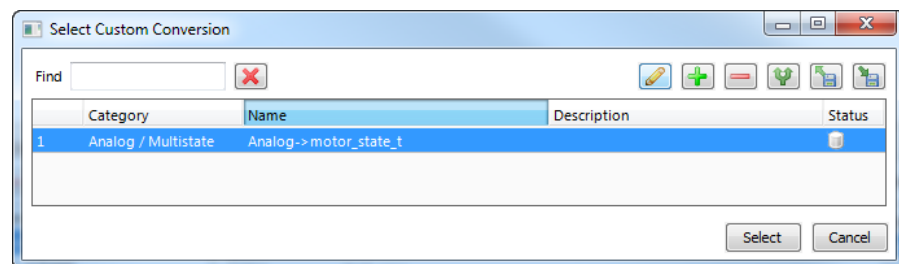

Figure 16: Choose a custom conversion.
- To add a new conversion to this item, click on the button. A dialog opens, which displays the matching adapters already available in the library as shown in Figure 16.